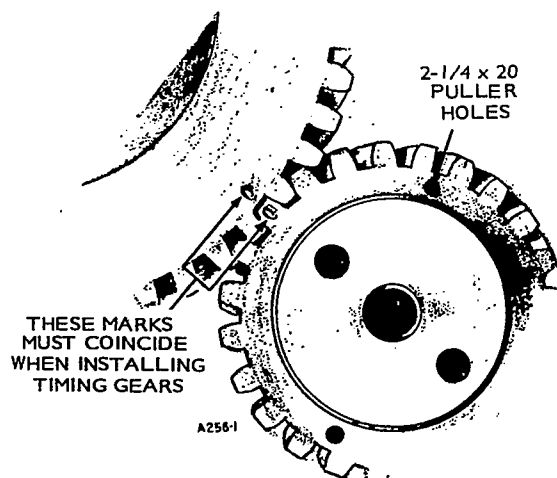

FIGURE 60. TIMING MARKS
5. Install camshaft assembly in engine. Align timing marks on camshaft gear and crankshaft gear. See Figure 60.